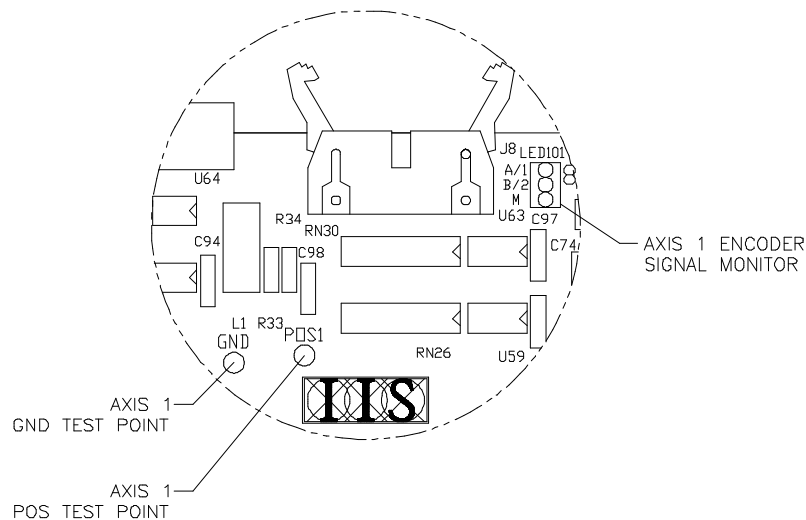
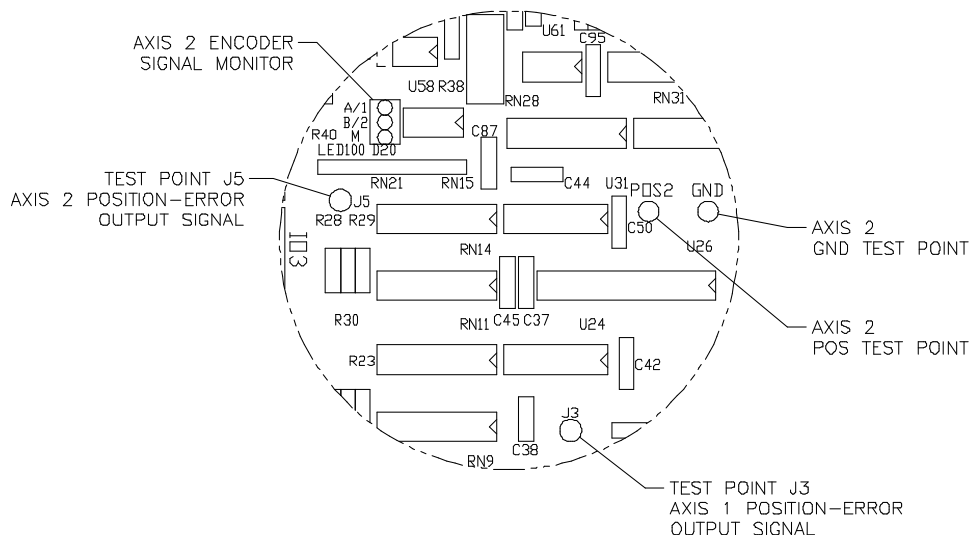

Figure 1.10 - Axis 1 Test Points and Indicators
Figure 1.11 - Axis 1 and Axis 2 Test Points and Indicators
1. POS and GND Test Points: There is one set of test points for each axis (refer to **Figure 1.10** and **Figure 1.11**). Place a meter between these test points to measure the POS OUT signal of the axis. (Refer to "Section 4 - Maintenance" for applications involving the use of these test points.)
2. Encoder Signal Monitor: There is one set of three LED encoder signal indicators for each axis (refer to **Figure 1.10** and **Figure 1.11**). One LED is assigned to each channel of the encoder and illuminates each time the channel generates a pulse. The quadrature channels (1 and 2) will flash very rapidly while the encoder shaft is turning. The indicator for the marker channel will flash once per encoder-shaft revolution.
3. Position-error Output Signal: One test point for measuring the following error is provided for each axis (refer to **Figure 1.11**). J3 is the test point for axis 1 and J5 is the test point for axis 2. (Refer to "Section 4 - Maintenance" for applications involving the use of these test points.)